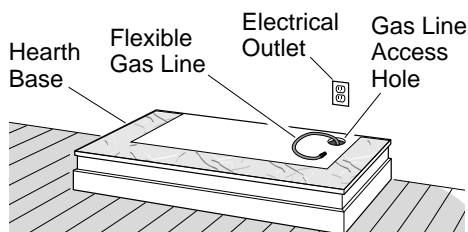

Figure 21 - Placing Hearth Base Accessory Against Wall
2. When installing blower, install a properly grounded, 120 volt three-prong electrical outlet at fireplace location if an outlet is not there. If possible, locate outlet so cabinet mantel will cover it when installed (see Figure 21).
4. Place hearth base accessory against wall at installation location. Cut an access hole in hearth top to run flexible gas line to fireplace (see Figure 21). Make sure to locate access hole so cabinet mantel will cover it when installed.